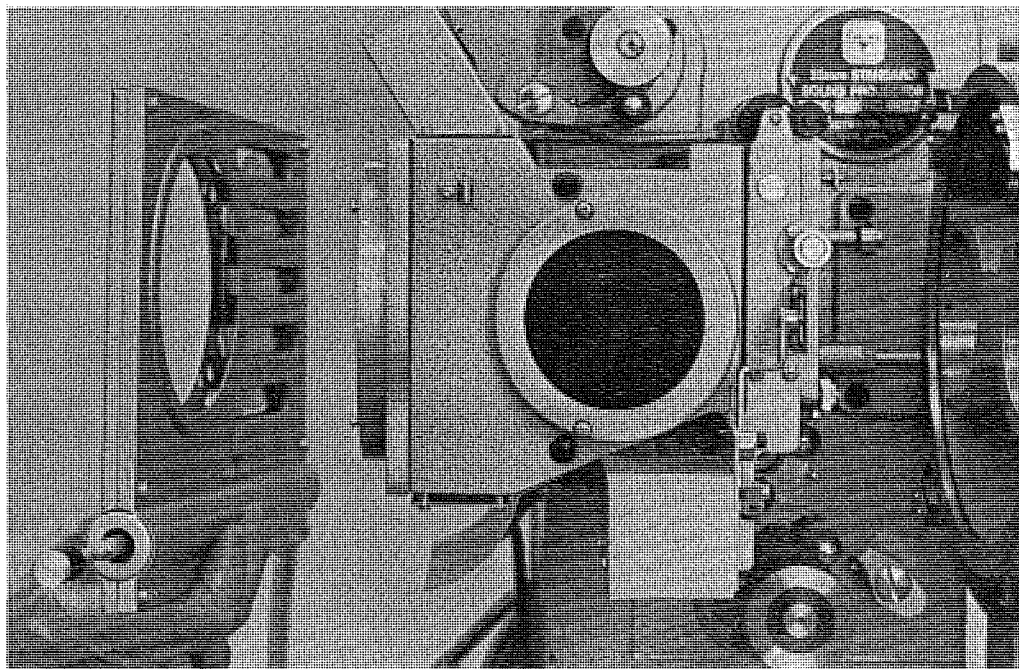

Fig. 1-1: Mounting the Electric Changeover Dowser
- Fig. 1-1: MOUNTING THE ELECTRICAL CHANGE OVER POWER
- 1.1 Prior to mounting the projector onto the console or pedestal, the Electric Changeover Dowser (TSR-KG) should be mounted onto the rear of the Shutter Housing Assembly (TSR-A-10, A-15, etc.) using the four screws provided. When using the alternate Short Shutter Housing Assembly (TSR-A-10A) the Changeover Dowser is secured with only two mounting screws. Orient the Changeover so that the manual dowser handle is on the bottom, facing the operating side of the projector, as shown in Fig. 1-1.